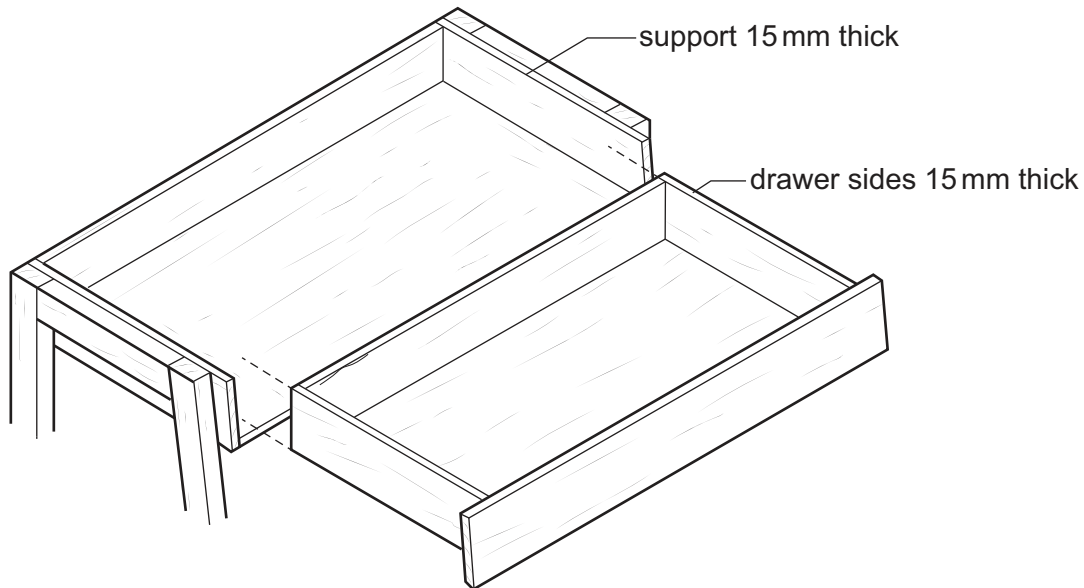

Fig. 13.4
- (d) Fig. 13.4 shows the drawer removed from its support.